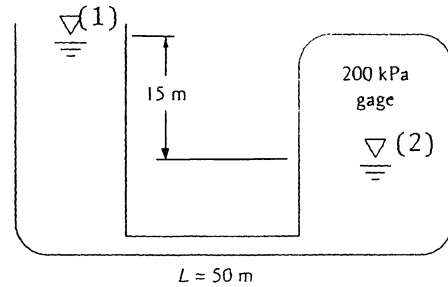

Fig. P6.78
6.78 In Fig. P6.78 the connecting pipe is commercial steel 6 cm in diameter. Estimate the flow rate, in m^3/h , if the fluid is water at 20°C . Which way is the flow?